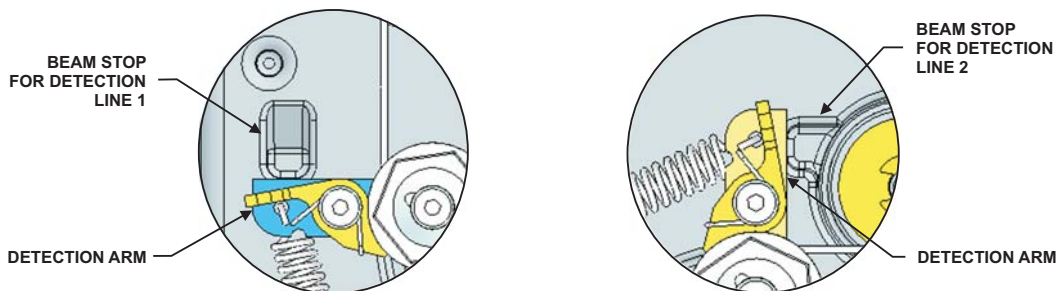

Figure 4-76. Detection Beam Stops
- Using a 7/8-inch socket (or equivalent), carefully ratchet up the slack in the control cable lines (see Figure 4-76). Tighten the line until the beam reaches the stop. **Do not overtighten.**